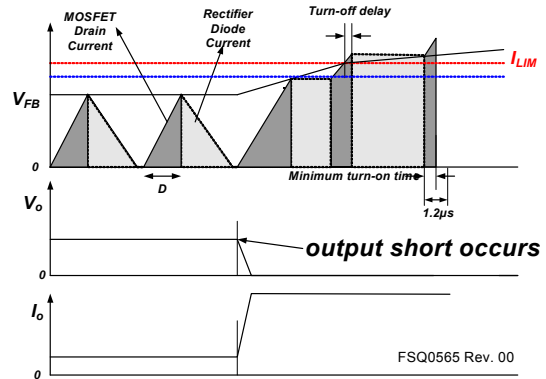

Figure 32. Output Short Waveforms
4.3 Output-Short Protection (OSP): If the output is shorted, steep current with extremely high di/dt can flow through the SenseFET during the LEB time. Such a steep current brings high voltage stress on the drain of SenseFET when turned off. To protect the device from such an abnormal condition, OSP is included in the FSQ-series. It is comprised of detecting V_{FB} and SenseFET turn-on time. When the V_{FB} is higher than 2V and the SenseFET turn-on time is lower than 1.2 μ s, the power switch recognizes this condition as an abnormal error and shuts down PWM switching until V_{CC} reaches V_{start} again. An abnormal condition output short is shown in Figure 32.